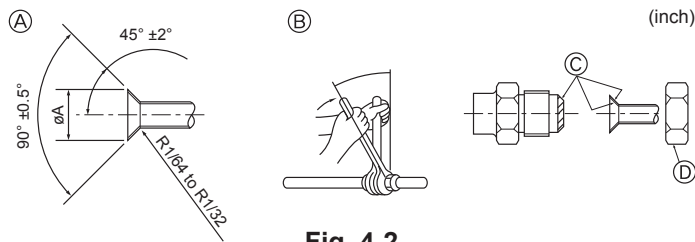

Fig. 4-2
4.2. Connecting pipes (Fig. 4-2)
② Flare nut tightening torque